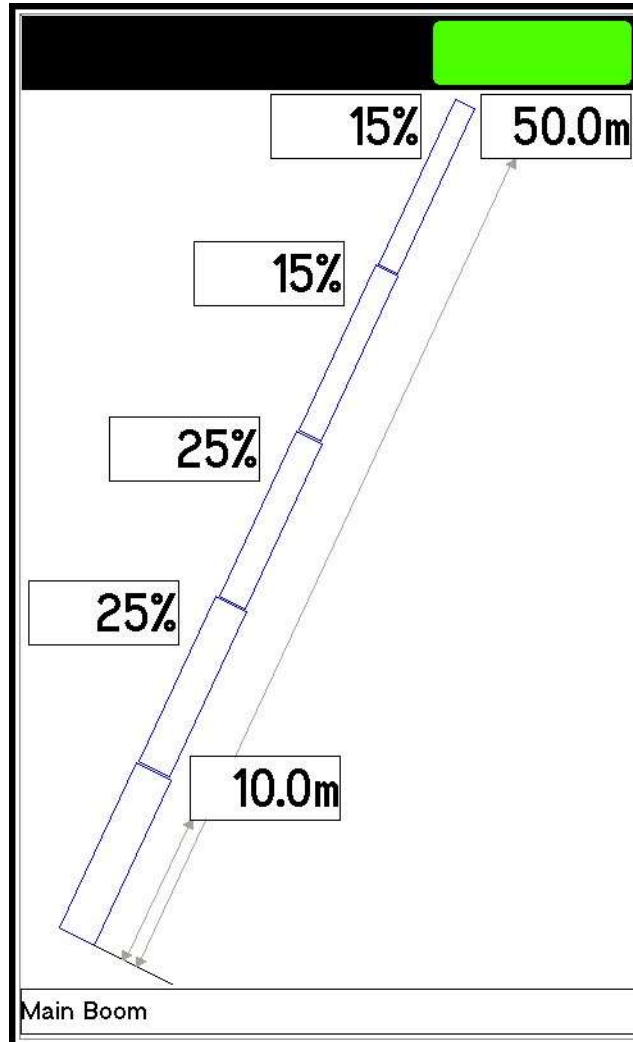

Figure 18
8. **Boom Telescope Percentages** – To view the current boom percentages and lengths press the working screen where the percentages are displayed. The boom telescope percentage screen will be displayed (Figure 18) with current lengths and percentages. To exit back to the normal working screen press anywhere on the screen.